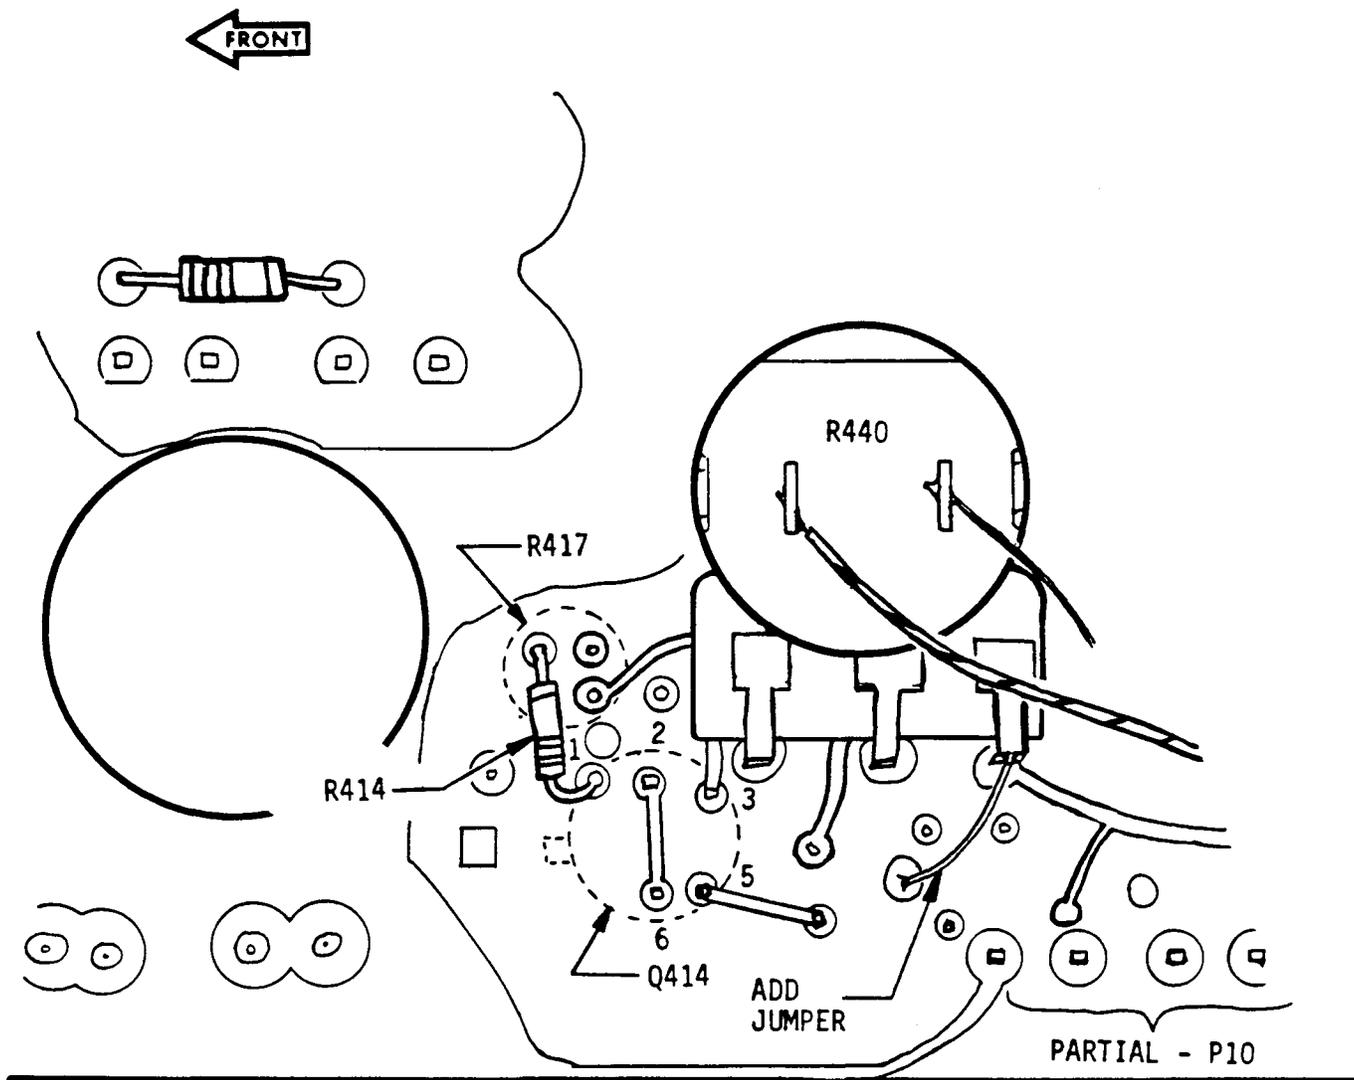

Fig. 6. Partial View - Back (Solder Side) of Input Circuit Board.
- ( ) 5. On the back (solder side) of the circuit board, (see Fig. 6), solder a jumper between the solder pad from which R344 was unsoldered and the rear terminal (+5.6V) of variable resistor R440.
- ( ) 20. On the back (solder side) of the circuit board (see Fig. 6), solder the new R414 (the 499 $\Omega$  resistor from the kit) between the front terminal of variable resistor R417 and the socket for pin 1 (source) of Q414.